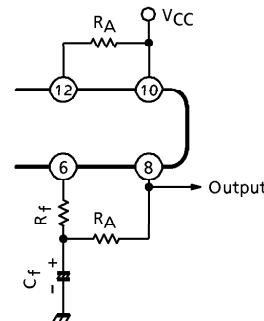

Fig.3
1) In case of the battery use ( $V_{CC} \leq 6V$ ), this IC is happen to oscillate (blocking oscillation) when the impedance of power supply is high. In this case, it is recommended to insert the resistance  $R_A$  of  $500\Omega \sim 1k\Omega$  between **⑩**pin and **⑫**pin ( $V_{CC}$  – Filter II). By this method, this IC becomes very stable. But the output DC voltage is not center by the influence of  $R_A$ . Then the output wave shape is not symmetrical clipping wave and the maximum output voltage is reduced. So we recommend to insert the other resistance  $R_B$  between **⑥**pin and **⑧**pin for compensating the output DC voltage.
2) When you use this IC at the supply voltage of more than 6V, it is better to insert the resistance  $R_B$  for compensating output DC voltage. (Fig.3)